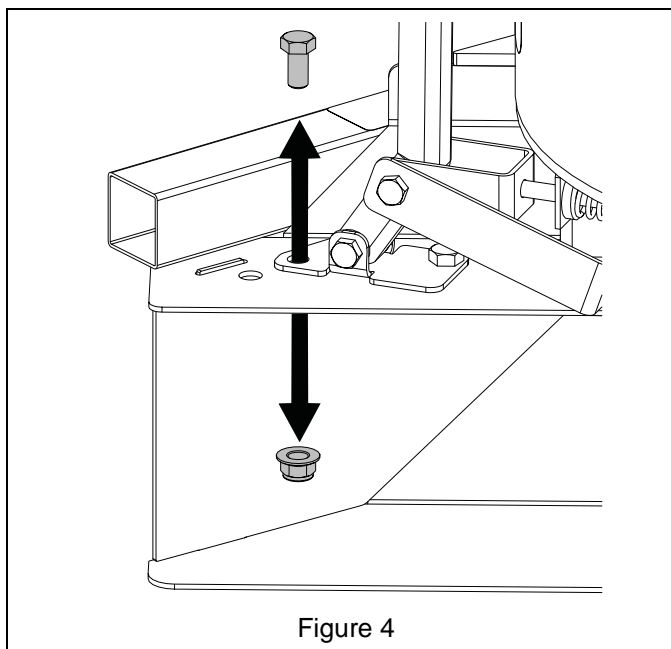

Figure 4
1. Remove and discard front hex bolt and nyloc nut from the idler. See Figure 4.